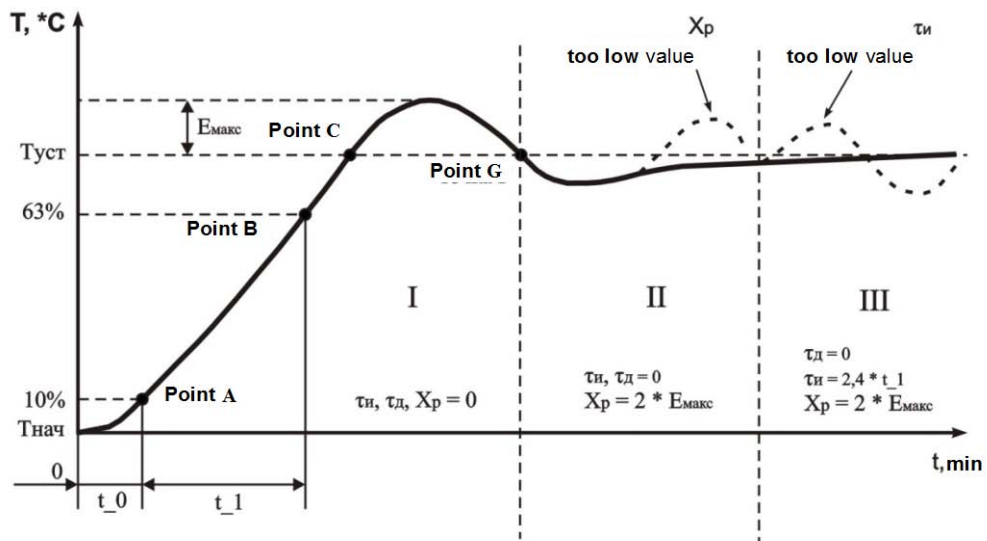

Figure 7.1 - PID regulator manual tuning
After switching off loading relay (period I, point B at figure 7.1) sometime the temperature mechanically will be increase further.
As soon as the control temperature will come down low $SP(T_{уст})$, process automatic tuning will be finish (point G figure 7.1) and to display device display continuous lettering "P d".
After passage to mode regulation (at the end of 20 seconds the device automatically pass into mode regulation) output relay of loading will be power on till fail to reach regulation temperature (setting limit) $T_{уст}$ (period I, point B into figure 7.1)
7.2.5.3.4 Take measure t_1 – time from the moment of temperature increase to 10% (point A at figure 7.1) and to the moment of temperature increase to 63% from the range $T_{уст} - T_{нач}$ (point B at figure 7.1).
7.2.5.3.6 Take measure of maximum value overshoot between points B and G ($E_{макс}$. figure 7.1).
7.2.5.3.7 Fix the value $X_p = 2 * E_{макс}$ (period II at figure 7.1).